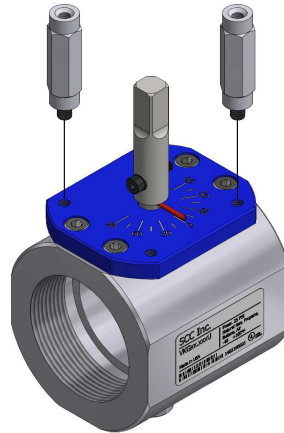

Figure 3: Standoff Installation
2. Place a small amount of red Loctite on the end of each of the (2) M6 x 22mm socket set screws. Using a 3mm hex key, fasten each socket set screw into one end of a hex standoff until the screw bottoms out. By hand, thread the standoffs into a pair of opposite M6 threaded holes on the top of the blue dial of the VKG... valve as shown in Figure 3. Using the 1/2" open end wrench (or crescent wrench), tighten each standoff against the dial.